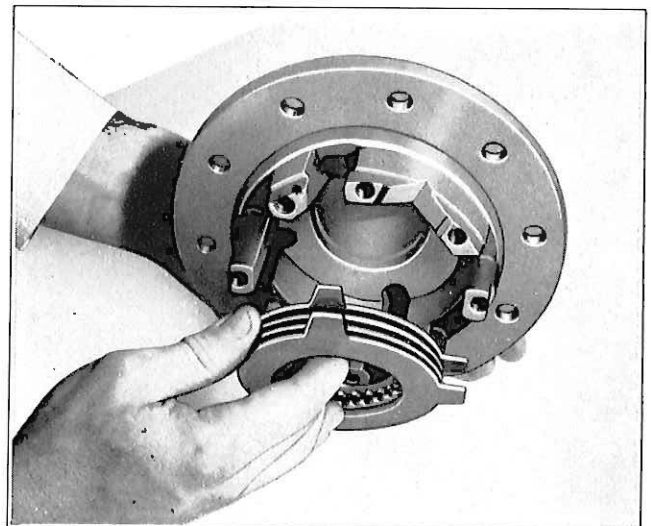

Fig. 3—Installing Clutch Plates
1. Hold ring gear half of the case on its side, Fig. 3. Install clutch plates and side gear retainer as follows.